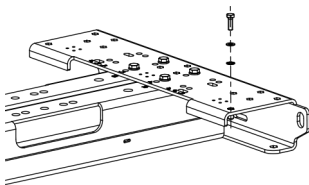

Fig. 10: Earthing the frame
- Earth the frame using an earthing strap. Connect the earthing strap to the frame using the screw (Fig. 10) provided.